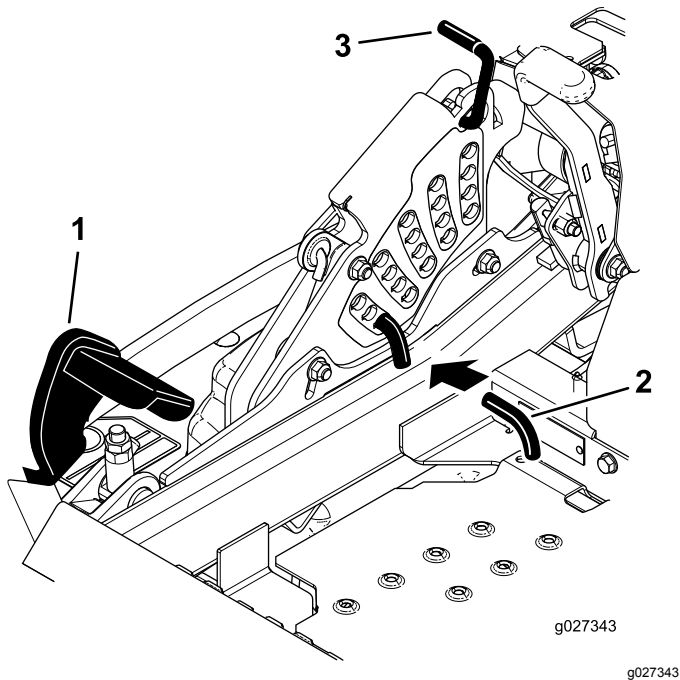

Figure 104
5. Push the deck-lift pedal all the way forward and the deck latches at the 14 cm (5-1/2 inches) transport position (Figure 104).